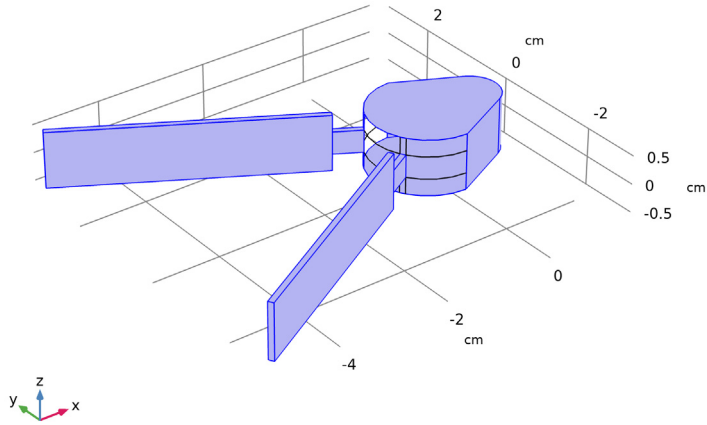

Figure 2: Solid motion (all components) transferred to the moving mesh boundaries.
- On all fluid-solid interface boundaries, except at the curved boundaries at the back of the solid body, a **Prescribed Mesh Displacement** boundary condition is used to transfer the motion of the adjoining solid to the moving mesh. As shown in Figure 2, this boundary condition sets the displacement of the mesh boundaries equal to the mapped solid boundaries of the identity pairs.